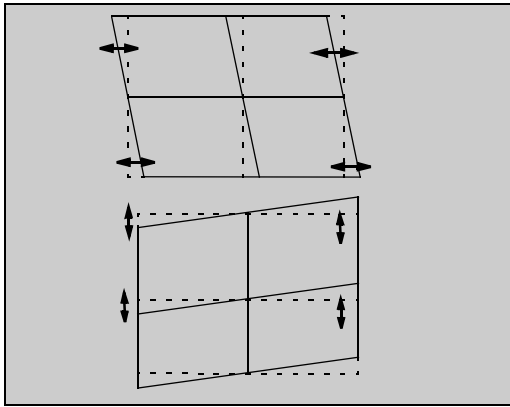

Figure 50. **SKEW adjustment**
23. Adjust "R-SKEW" so that the vertical and horizontal line of center overlaps with green (see figure 50)